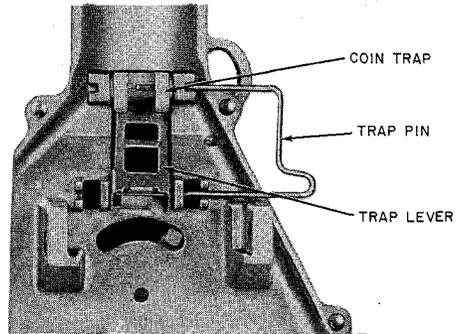

Fig. 49—Placing Coin Trap in Hopper
- (2) Insert coin trap in hopper and engage pin in trap (Fig. 49).
- (3) Push trap pin into position.
- (4) Check operation per Table K.
- (5) Install relay on hopper, if applicable.